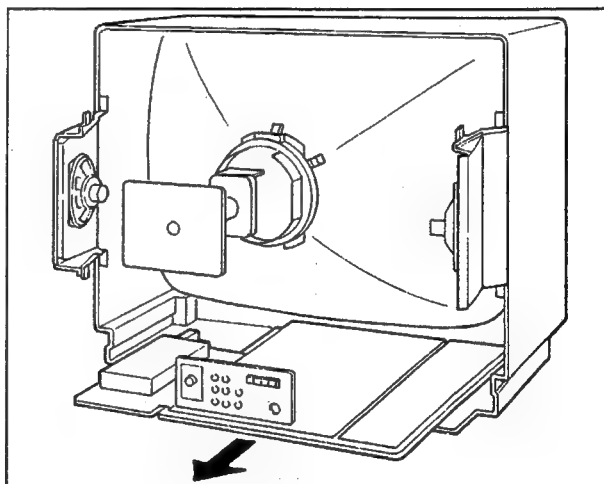

Fig. 2
- 1. Slightly raise the chassis and pull it outward (Fig. 2).